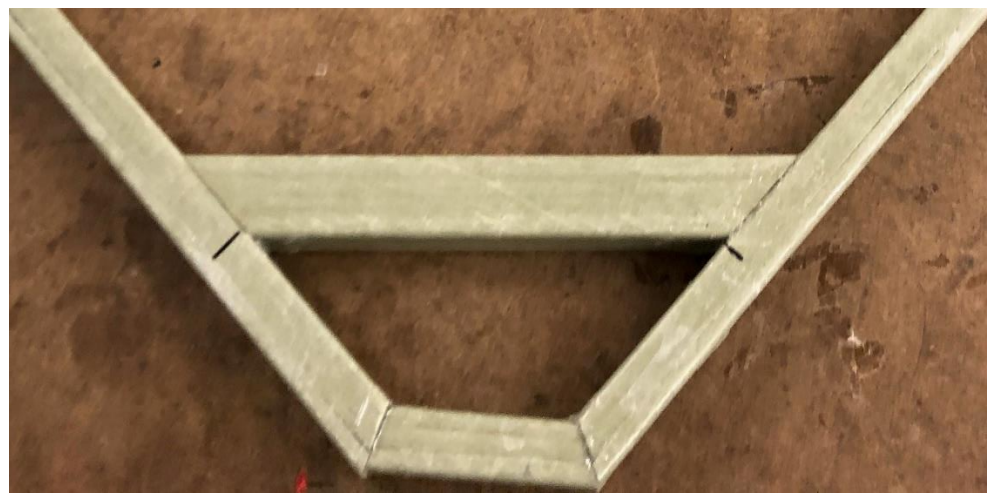

Figure 3.5
- 14. Once the epoxy is dry for the previous step (roughly 45 minutes), epoxy a Brace (PNTNBC004) inside each corner of the coil. This should be four Braces total. Set a clamp against each brace and Corner Housing A to hold the braces firmly to the frame. A braced corner is shown in Figure 3.5.